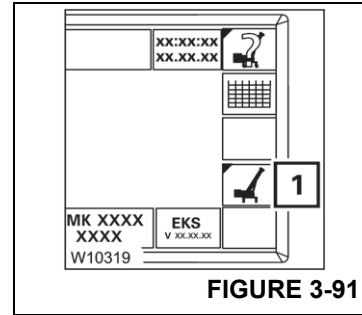

FIGURE 3-91
If necessary, open the main menu by pressing the  button. Press the F8 button (1) (Figure 3-91) once.